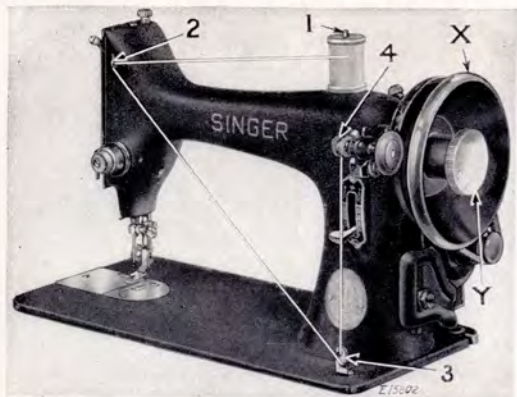

FIG. 5. MACHINE THREADED FOR WINDING THE BOBBIN
It is necessary to understand the stop motion (Y, Fig. 5) by which the balance wheel (X) can